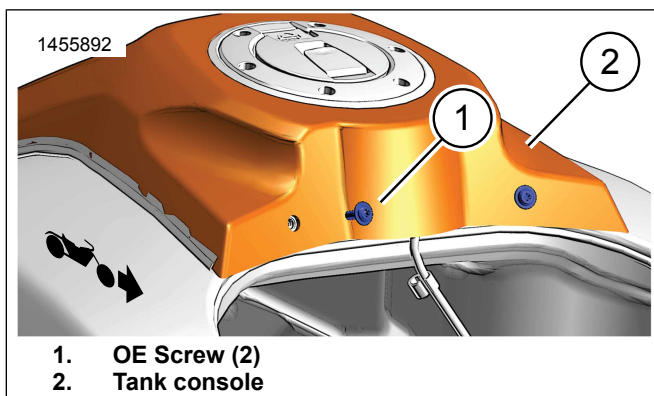

Figure 2. Tank Console
1. See Figure 2. Remove Original Equipment (OE) screws (1) from tank console (2). Discard.